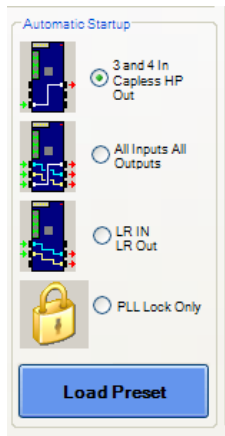

Figure 3. EVAL-ADAU1761Z Presets
- Go to the **IC1-ADAU1761 Register Controls** tab. Choose a preset for the appropriate input/output configuration and load it by clicking **Load Preset** in the **Codec Setup** tab (see Figure 3). Do not use the **Link/Compile/Download** button.